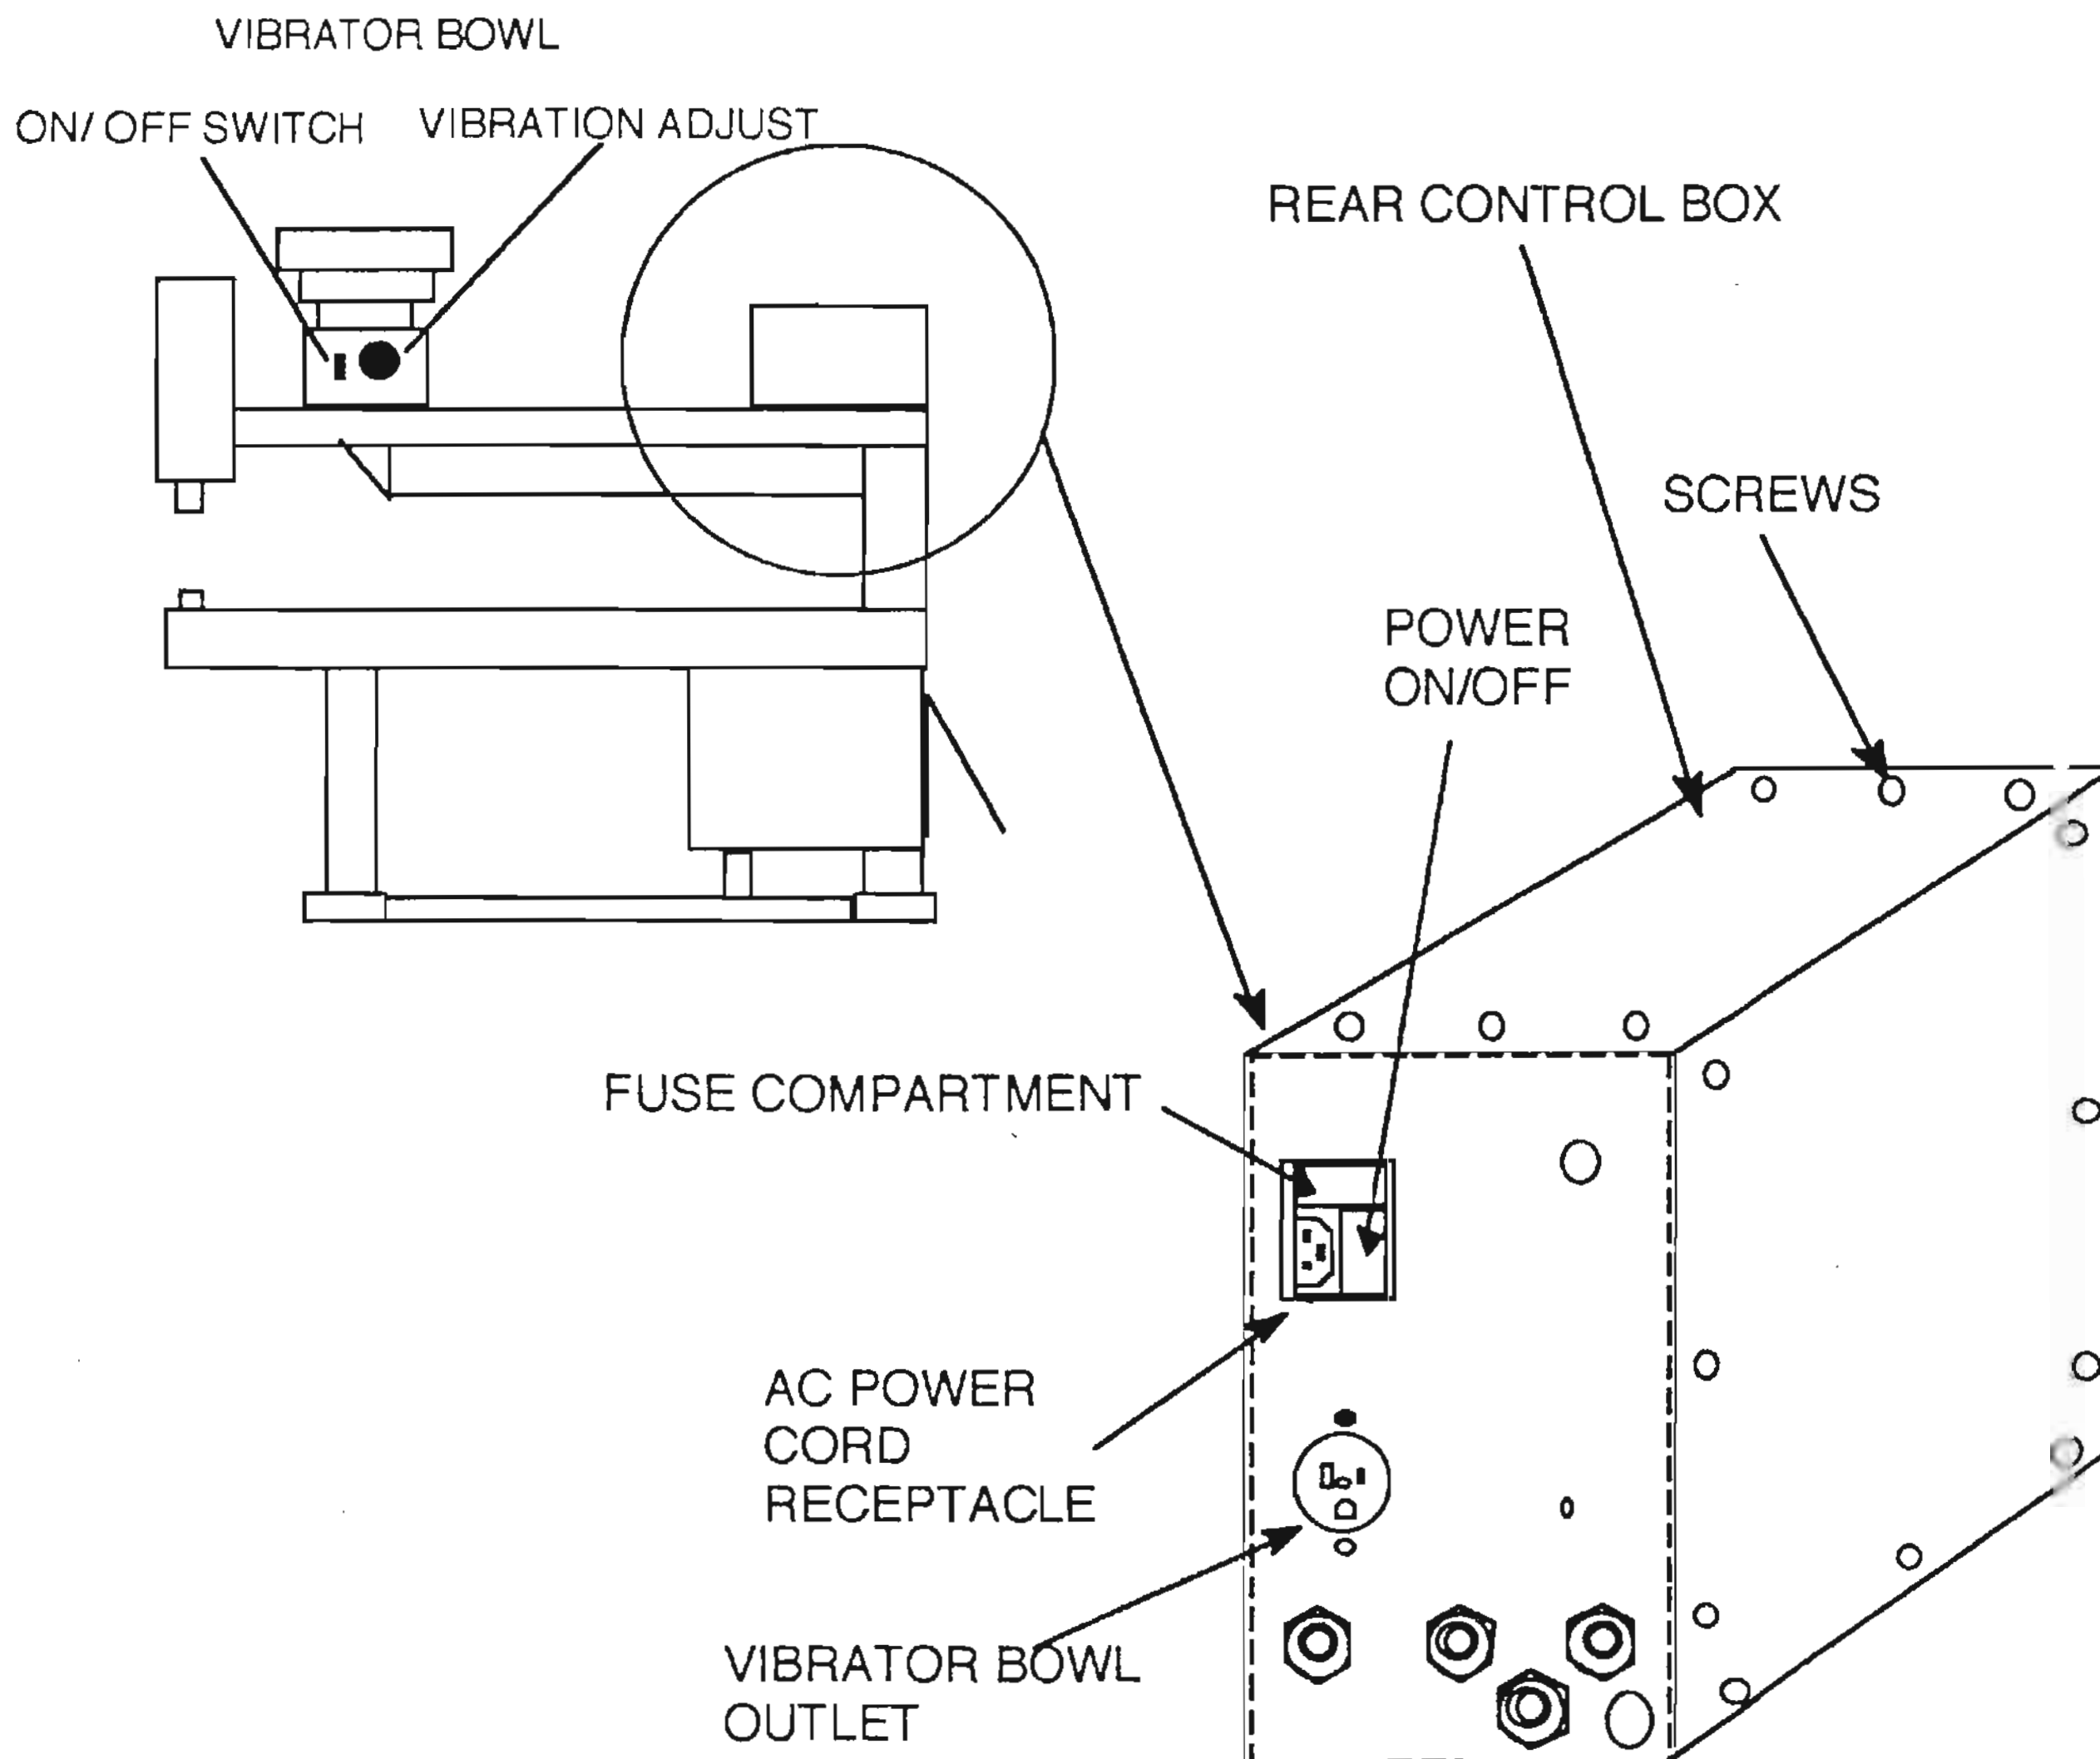

Fig 3-4
1. Refer to **FIG 3-4**. Locate 120 VAC line cord on front panel of rear control box. Box is at top rear of welder. Plug cord into a nearby 120 Volt AC outlet.